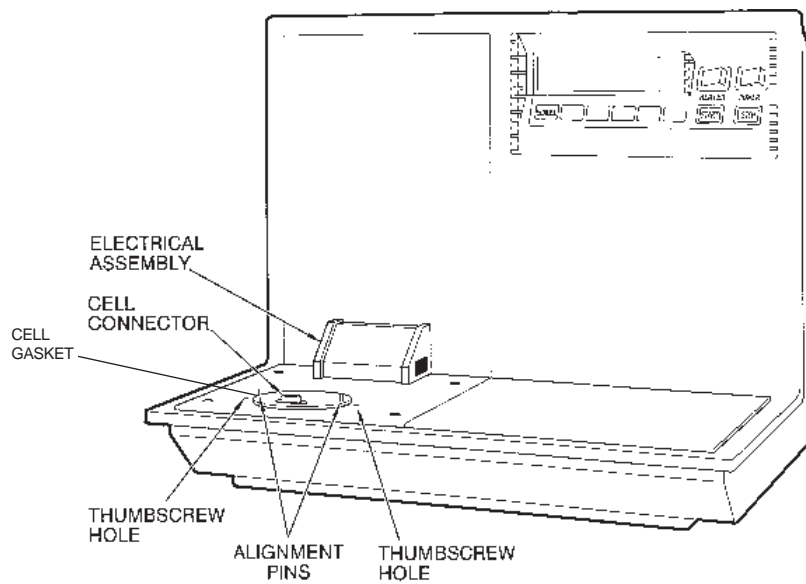

Figure 2.10
2. Place the DSC Cell over the alignment pins on the 2910 instrument (Figure 2.10) so that the green dot on the cell base plate faces to the front. Press down on the cell base plate to seat the cell connector.
To install the Pressure DSC (PDSC) Cell on the DSC 2910, follow the instructions below, and refer to Figures 2.10 and 2.11.
2. Screw the two PDSC baseplate alignment pins (supplied with the PDSC cell) into the thumbscrew holes in the 2910 instrument (see Figure 2.10).